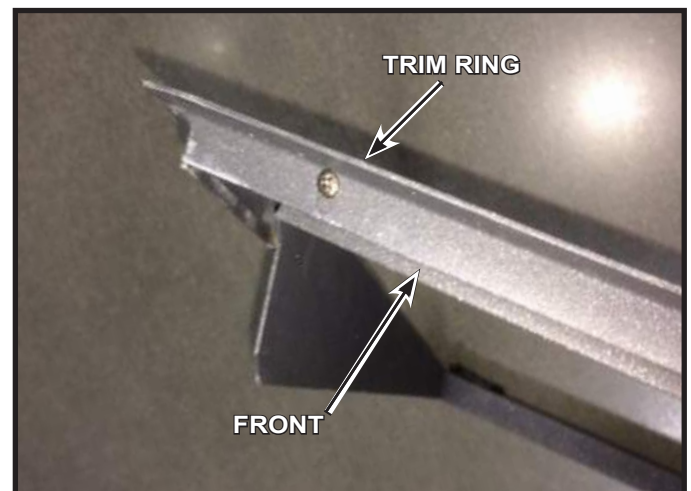

Figure 1. Trim Ring / Front
1. Pull firmly on the top edge of the Clean Face Front until it rotates away from opening of the appliance, then lift off of the appliance. See Figure 1.
2. Remove the Trim Ring from the front by removing the screws that attach the two parts. See Figure 1. Carefully disengage the Trim Ring and remove it from the Front.
3. With the new Trim Ring set on the floor face down, set the front inside the Trim Ring face down. Re-install the screws. See Figure 1.